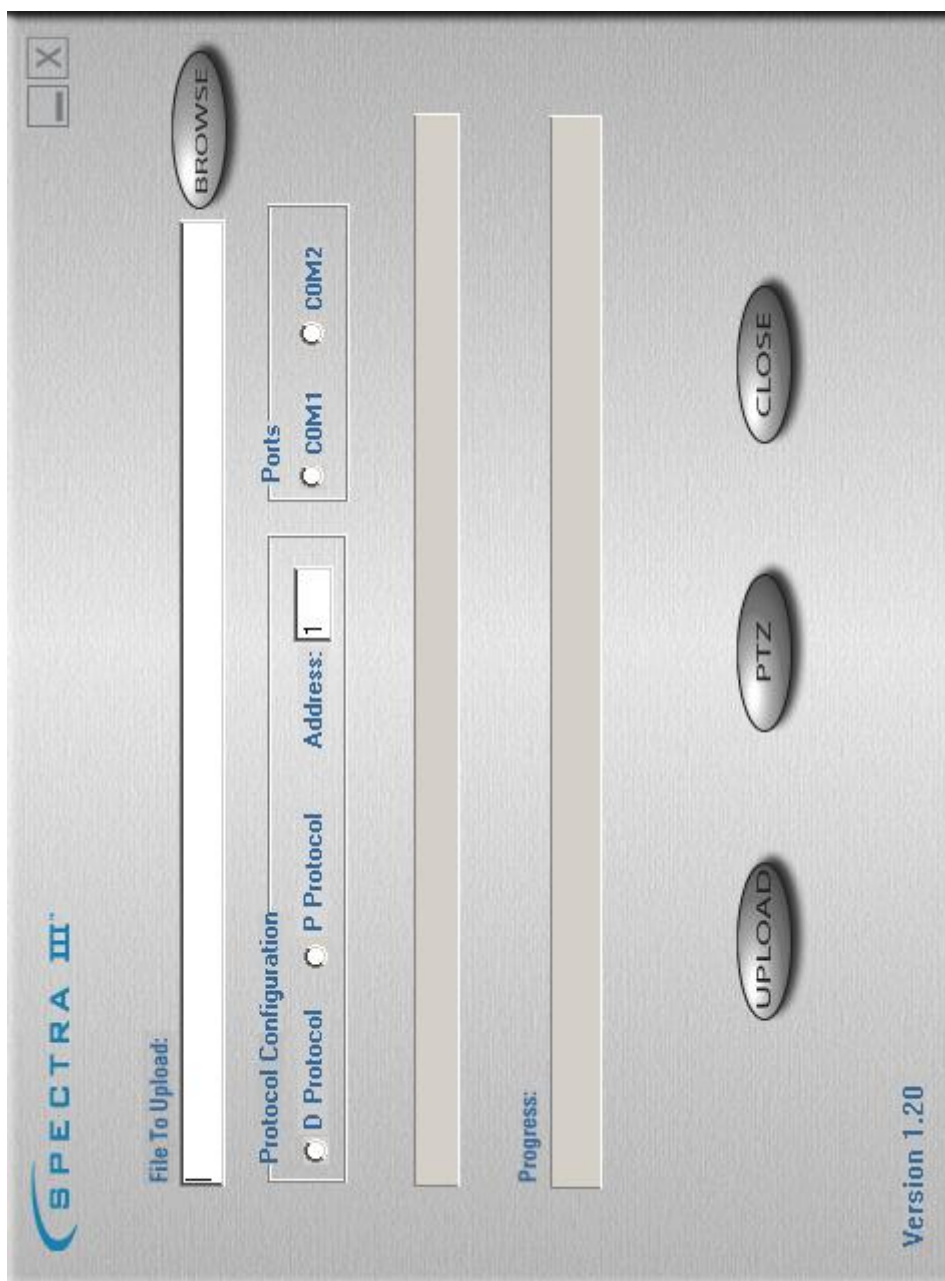

Figure 1: Main screen of the downloader for rev 1.20
1. The original Downloader screen is shown in Figure 1, page 8. Note that this screen has selection one of two COM ports, no parity selection and no ability to select a baud rate.